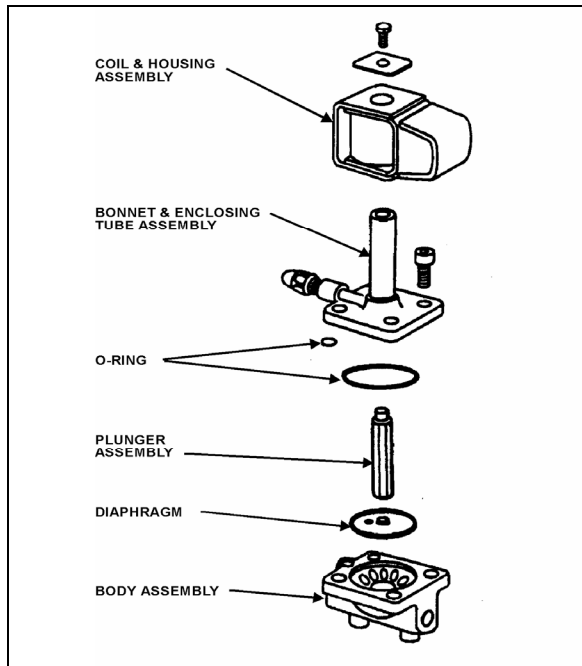

FIGURE 36: REFRIGERANT SOLENOID VALVE 22044
3. Remove the four socket head screws which hold the body and bonnet together (Fig. 36).